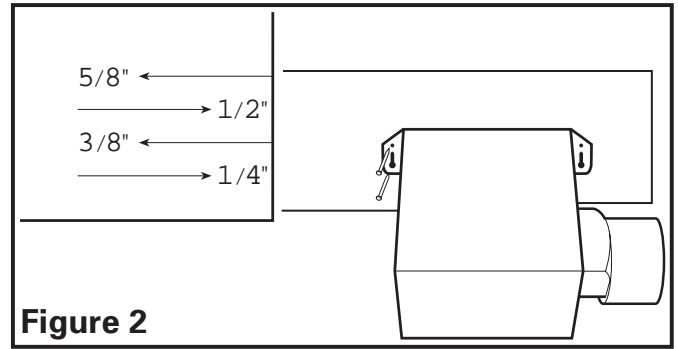

Figure 2
2. **Mounting Tab Installation:** Using the gauge on the fan's housing, line up housing so that it will be flush with the finished ceiling. Position the fan so that the tabs rest flat against the joist and secure with four nails or screws (not provided) to ensure proper installation (**Figure 2**).
- 1b. **Mounting Tab Installation:** Position housing against the joist and trace an outline of the housing onto the ceiling material (**Figure 4**). Set housing aside and cut opening, being careful not to cut or damage any electrical or other hidden utilities. Place housing next to the joist and insure that it is flush with the finished ceiling. Secure with four nails or screws (not provided) to ensure proper installation (**Figure 2**).